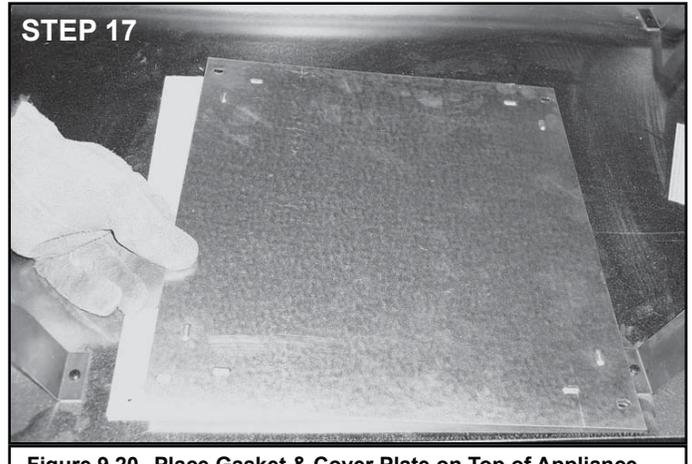
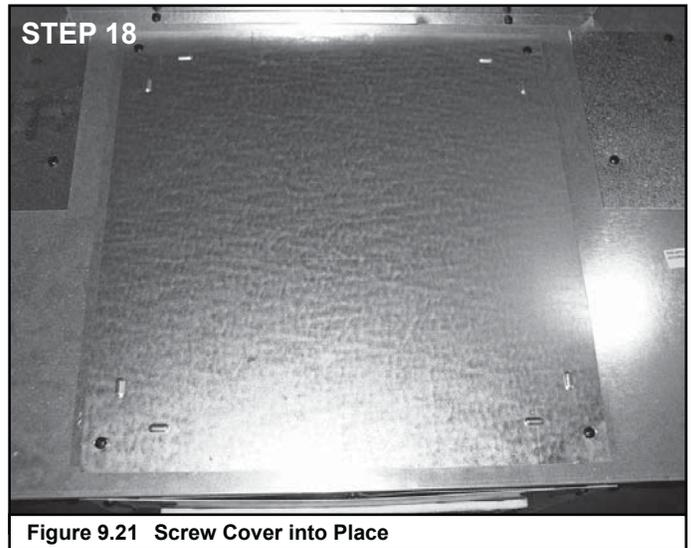

Figure 9.20 Place Gasket & Cover Plate on Top of Appliance
Figure 9.21 Screw Cover into Place
- Locate outer shell cover plate and gasket removed in Step 7 (Figure 9.10). Place the gasket and cover on top of appliance. See Figure 9.20. Replace four screws to hold plate in place. See Figure 9.21.
The diagram shows how to properly position, level, and secure the appliance (see Figure 9.20). Nailing tabs are provided to secure the appliance to the framing members.